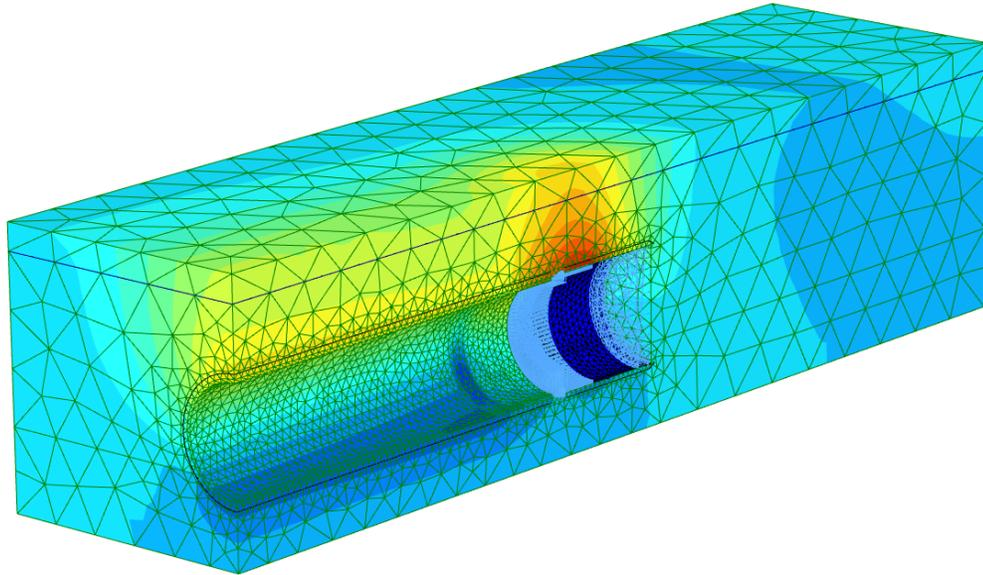

Figure 84: Total vertical displacements after the final phase $u_z \approx 3.1\text{cm}$
3. From the *Deformations* menu, select *Total displacements* and then u_z in order to see the total vertical displacements in the model as a shaded plot (Figure 84 (on page 109)).